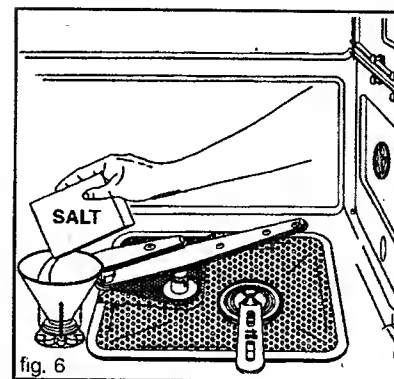

fig. 6
- Apply the funnel supplied inside the dishwasher to the salt container opening (fig. 6).